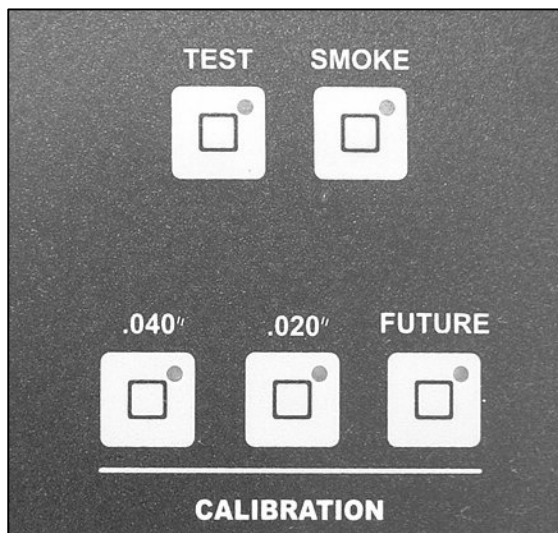
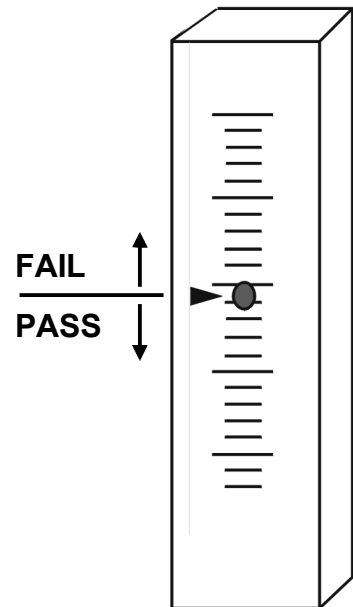

Figure 6
Figure 7
2. Determine if the vehicle's EVAP system you are testing is governed by a .020" (0.5 mm) or .040" (1 mm) acceptable leak standard. Press the appropriate calibration standard on the Tester's control panel (Figure 6) and observe the position of the flow meter ball. (Figure 7)
3. Position the flow meter's pointer flag so that it aligns with the measurement observed in step 2 above. (Figure 7)
5. Press TEST on control panel and fill EVAP system. (Figure 6)
7. Compare flow meter ball reading to pointer flag. (Figure 7)